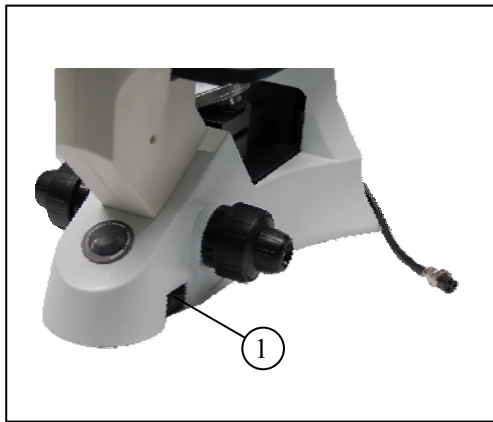

Figure 16
**4-1-1 Turning on the lamp (fig.16)**
Connect the power, turn on the main switch ① (shown on the fig.16) which on the bottom side of the base to “—”(on).